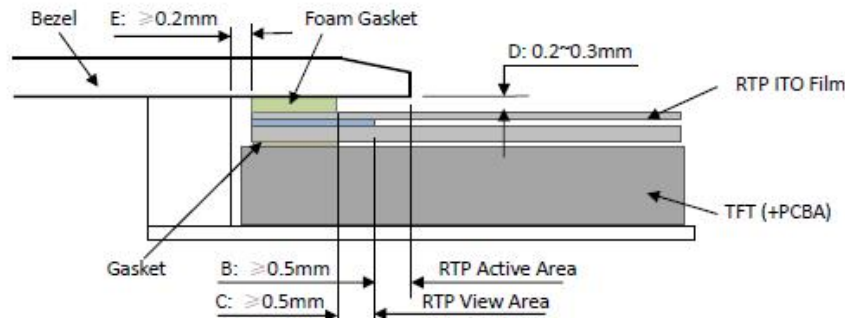

Figure 4
- It should bezel touching the RTP Active Area (A.A.) to prevent abnormal touch.It should left gab $D=0.2\sim 0.3\text{mm}$ in between. (Figure 4)
- 为避免面框直接压在动作区(A.A.)上造成误动作，面框与电阻触摸屏(RTP)之间应留有一定的空隙 $D=0.2\sim 0.3\text{mm}$ 之间。(附图 4)
(between the bezel and RTP). The suggested figures are $B \geq 0.50\text{mm}$; $C \geq 0.50\text{mm}$. (Figure 4)
- The bezel side wall should keep space $E = 0.2 \sim 0.3\text{mm}$ from the RTP. (Figure 4)
边缘到 V. A. 区的距离 $C \geq 0.50\text{mm}$. (附图 4)
- 在设计面框与 RTP 组装时, 应考虑到面框内侧与 RTP 外侧的间距 $E \geq 0.2\text{mm}$. (附图 4)